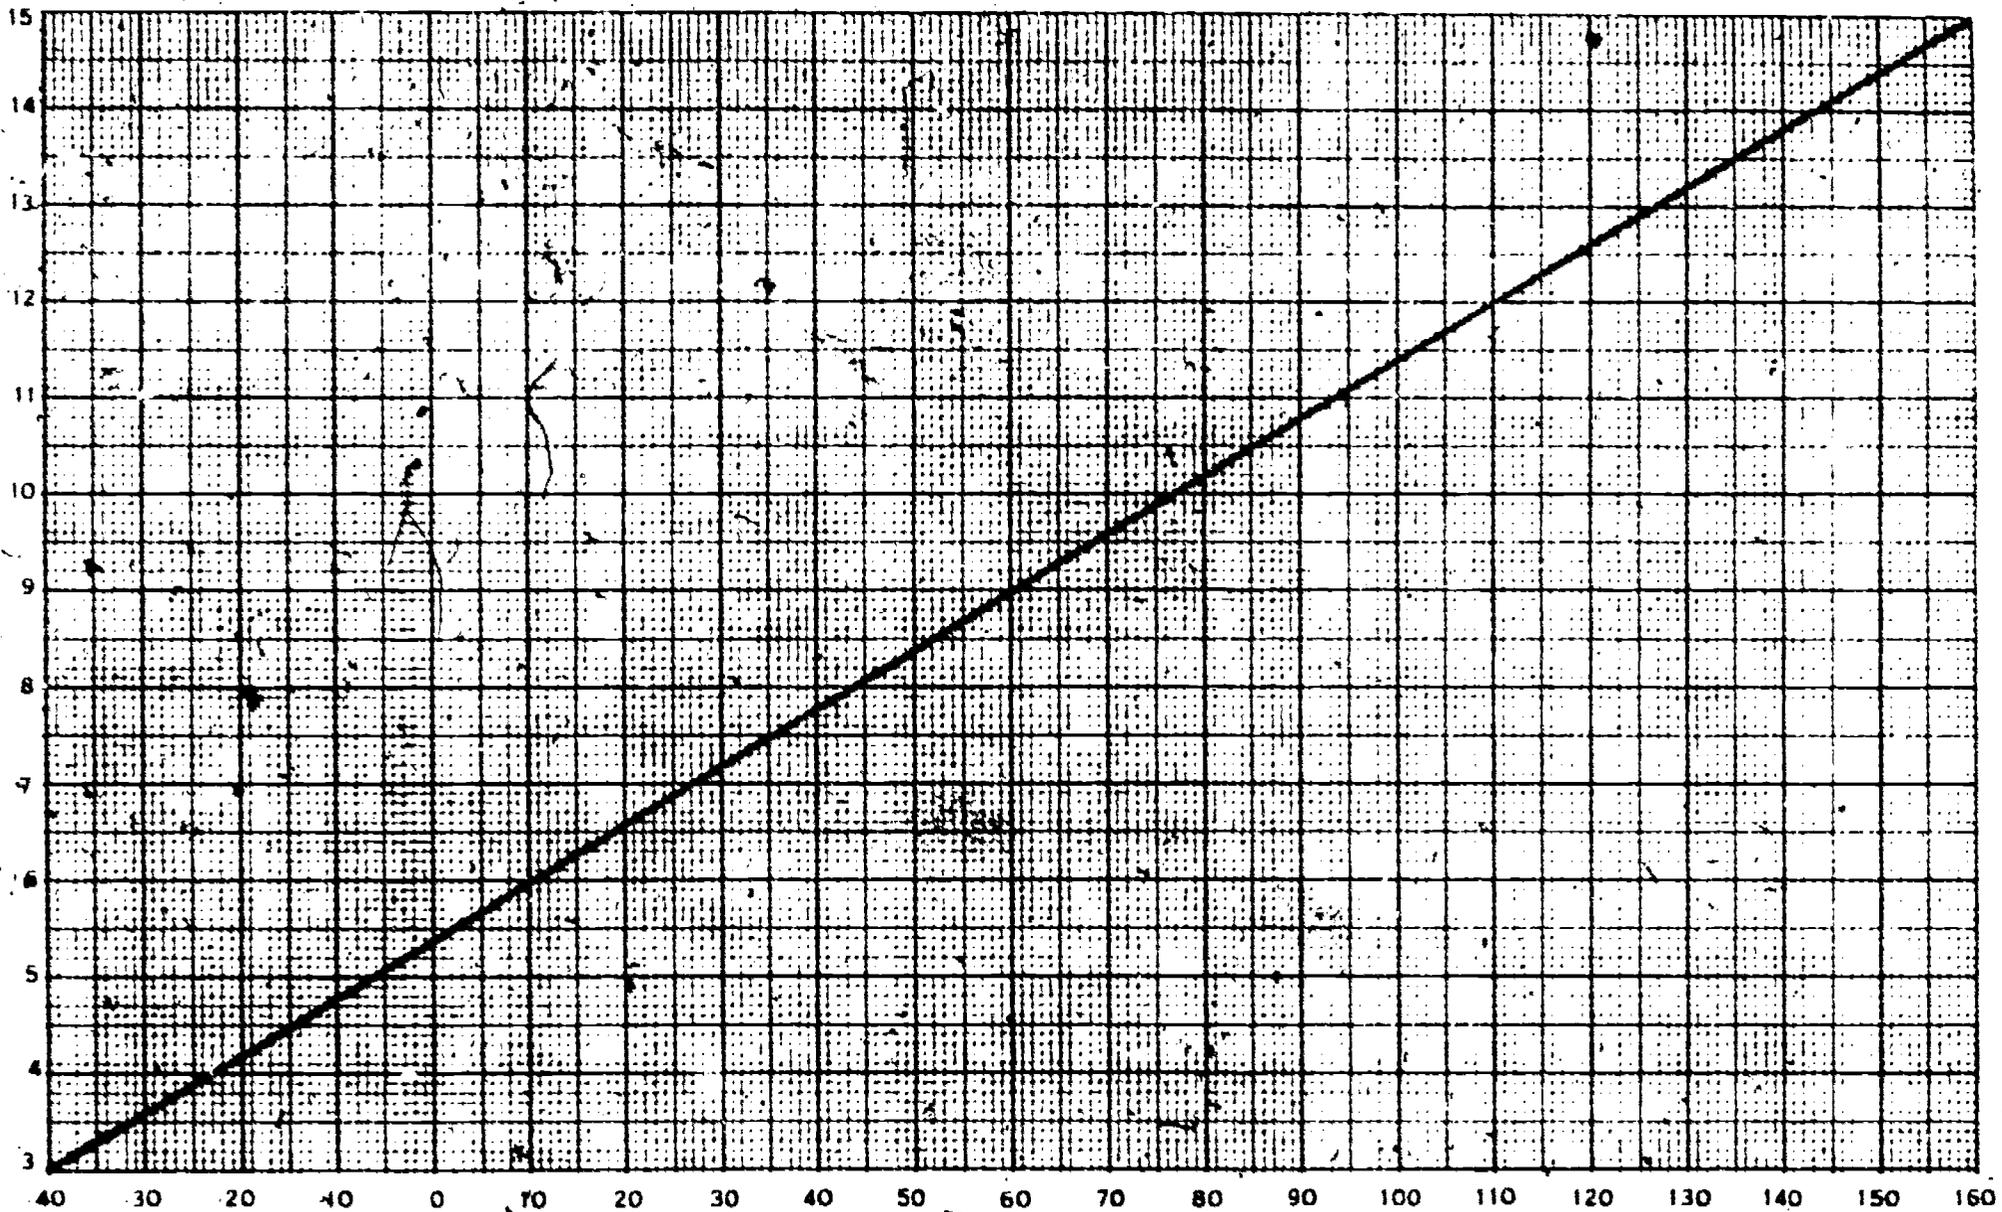

Figure 9. Pneumatic Temperature Chart
- b. Using the pneumatic temperature chart (figure 9), what pressure should Port No. 1 be indicating? \_\_\_\_\_